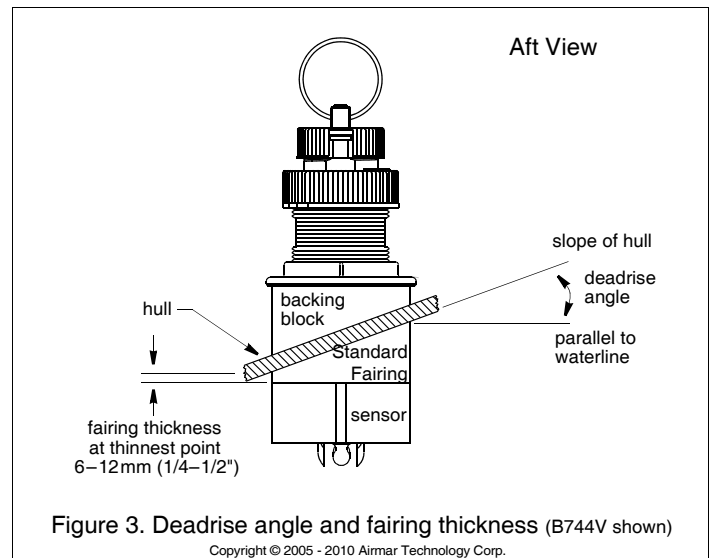

Figure 3. Deadrise angle and fairing thickness (B744V shown)
1. Measure the deadrise angle of the hull at the selected location using an angle finder or a digital level (see Figure 3).
4. Adjust the cutting fence so the fairing will be cut in about two equal parts. *The section that will become the fairing must be between 6–12mm (1/4–1/2") at its thinnest dimension* (see Figure 3).